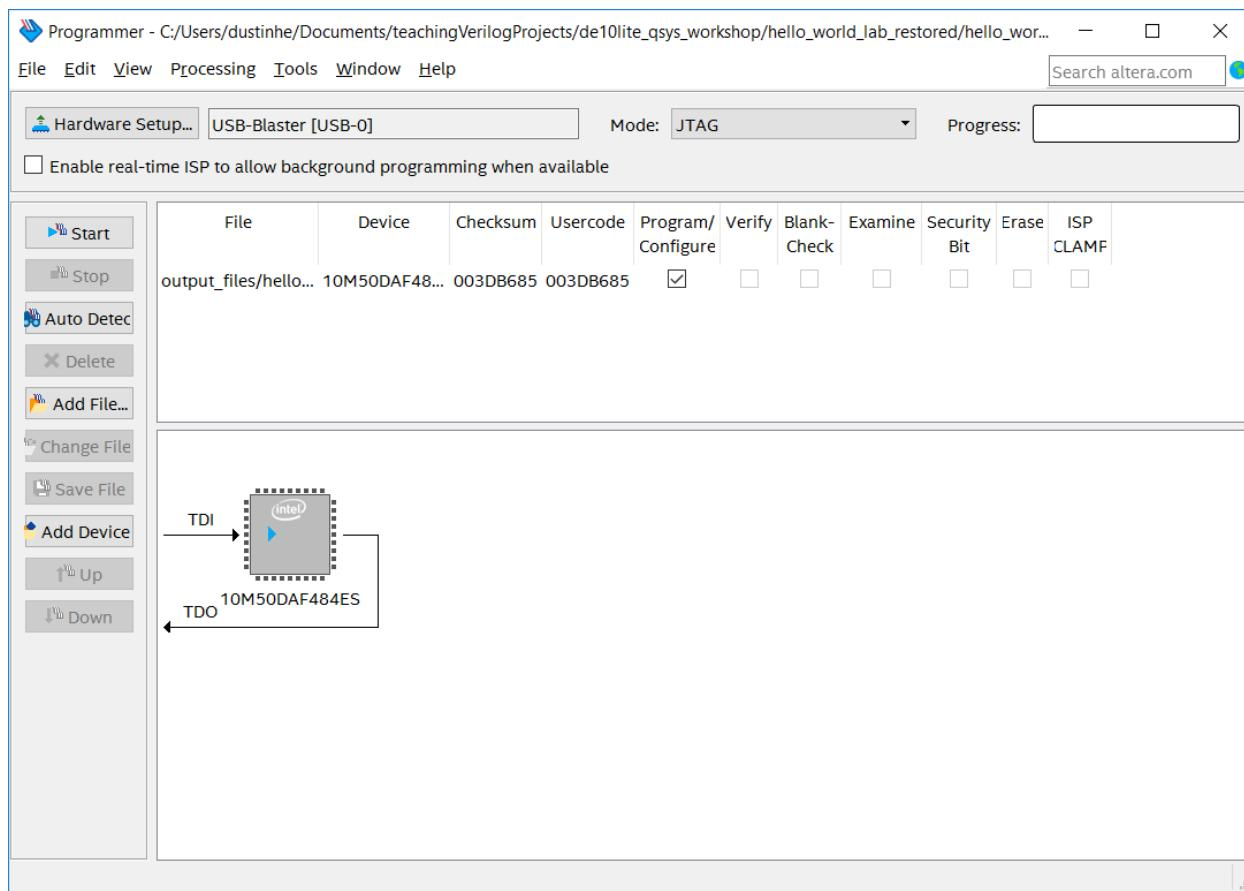

Figure 42: Programmer Panel with Program/Configure Checkbox
- In the first row under **Program/Configure** click in the check box as shown in Figure 42: Programmer Panel with Program/Configure Checkbox